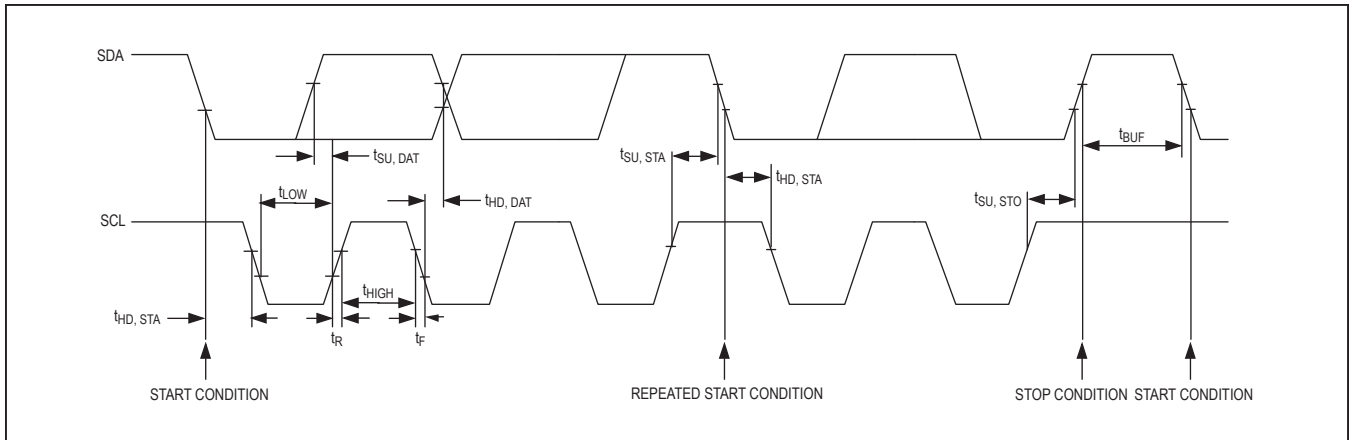

Figure 2. 2-Wire Serial Interface Timing Details
**Timing Characteristics (Figure 2) (continued)**
The MAX7300 operates as a slave that sends and receives data through an I2C-compatible 2-wire interface. The interface uses a serial data line (SDA) and a serial clock line (SCL) to achieve bidirectional communication between master(s) and slave(s). A master (typically a microcontroller) initiates all data transfers to and from the MAX7300, and generates the SCL clock that synchronizes the data transfer (Figure 2).